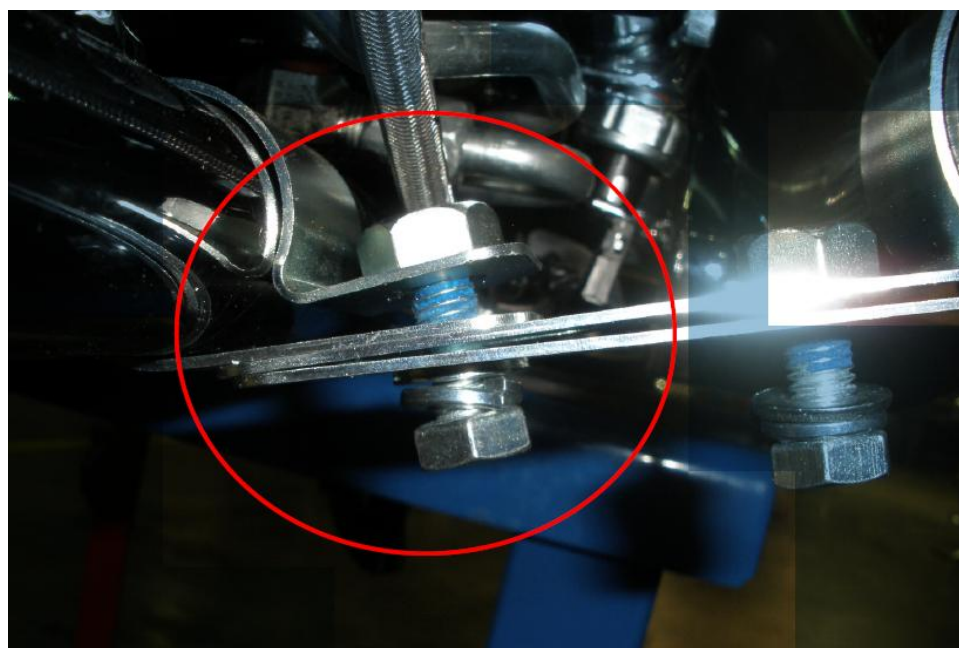

Fig. 3: Headpipe to Frame Bracket
7.) Tighten Frame Side Bracket screw to final torque. (Note overlapping of brackets.) (Fig.3)